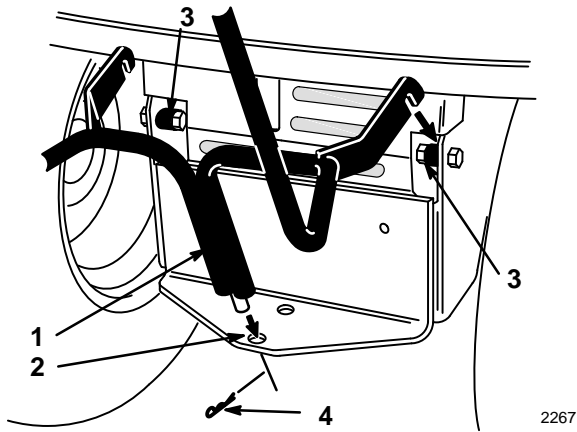

Figure 22
1. Slide the bottom of the quick-attach bracket down into the hole in the hitch and hook the notches onto the spacers located inside the tractor frame (Fig. 22).
2. Slide the hair pin cotter through the hole at the bottom of the quick-attach bracket (Fig. 22).